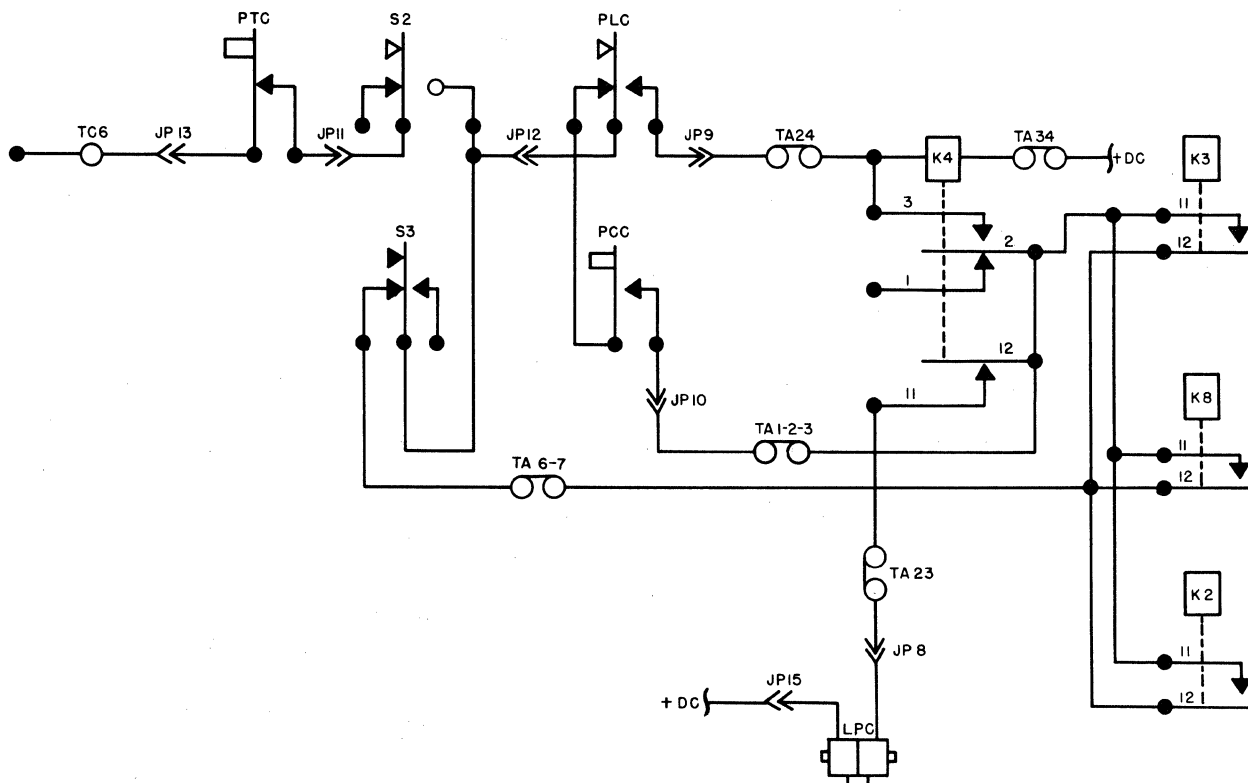

Figure 3-2 Anti-Repeat Circuit
The circuit to the clutch magnet (LPC) is completed at the same time as the above mentioned circuits to the punch magnets. The clutch magnet circuit is as follows: (Figure 3-2) from -DC, TC6, JP13, PTC, JP11, N/O S2, N/C S3, TA6 and 7, K3 - 12 and 11 and K2 - 12 and 11, K4 - 12 and 11,
**Anti-Repeat Circuit** — (Figure 3-2) When any one of the S4, S5, S8 or S9 switches are operated, the punch will complete one cycle of operation for as long as the particular switch is held depressed. This is due to a holding circuit to the anti-repeat relay (K4) which, when energized, will break the circuits to the six punch magnets and the clutch magnet (the punch magnet circuits are broken by contact K4 - 13 and 14 while the clutch magnet circuit is broken by K4 - 11 and 12 contact).
With the S3 switch operated, the clutch magnet circuit is complete when the PCC (punch common contacts) close. Also, due to S3 being operated, there will not be an anti-repeat circuit (holding circuit to K4 relay — see Figure 3-2). Therefore, as long as the S3 switch is held operated, the punch will continue to perforate the code 1-2-3-4-5-6.